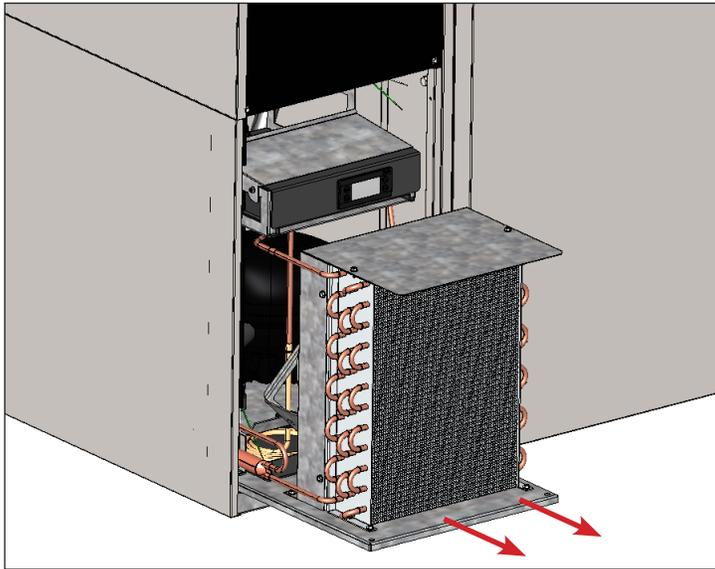

Fig. 5. Carefully slide the condensing unit out.
7. Carefully slide the condensing unit out (tubing connections are flexible). See fig. 5. Gently blow compressed air or CO₂ through the coil until it is clean.